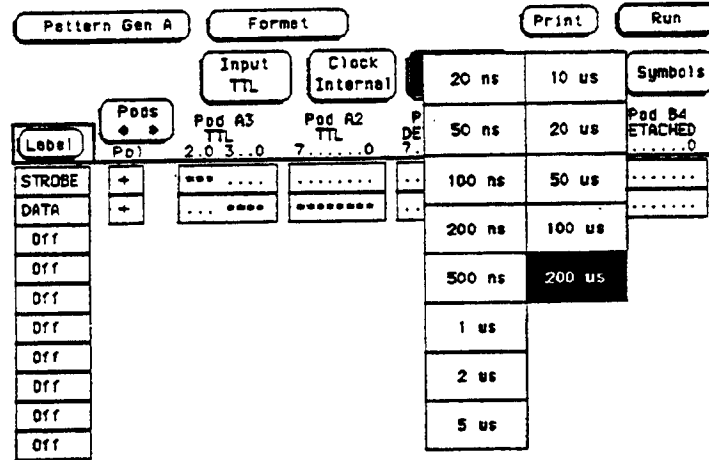

Figure 3-4. Clock Period Screen
- e. Touch Period and set Internal clock to 200 μ s as shown in figure 3-4.